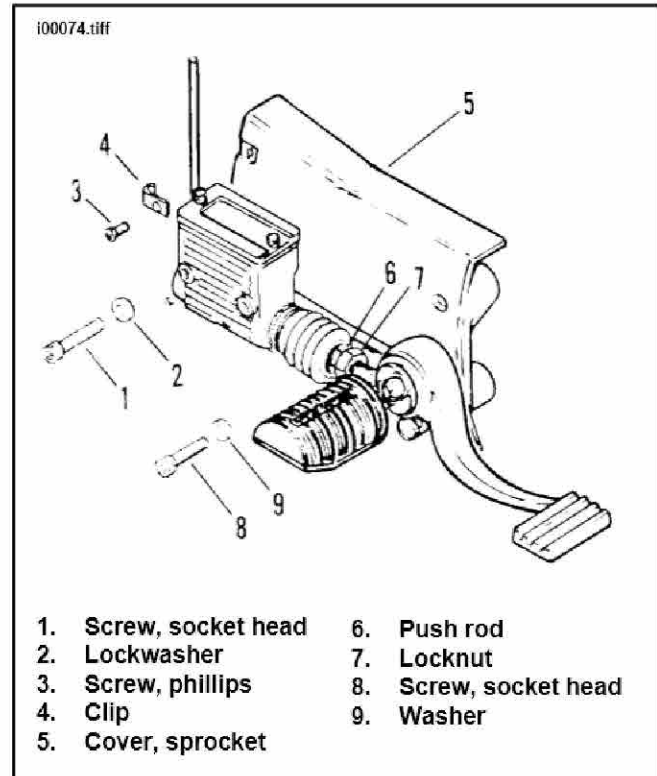
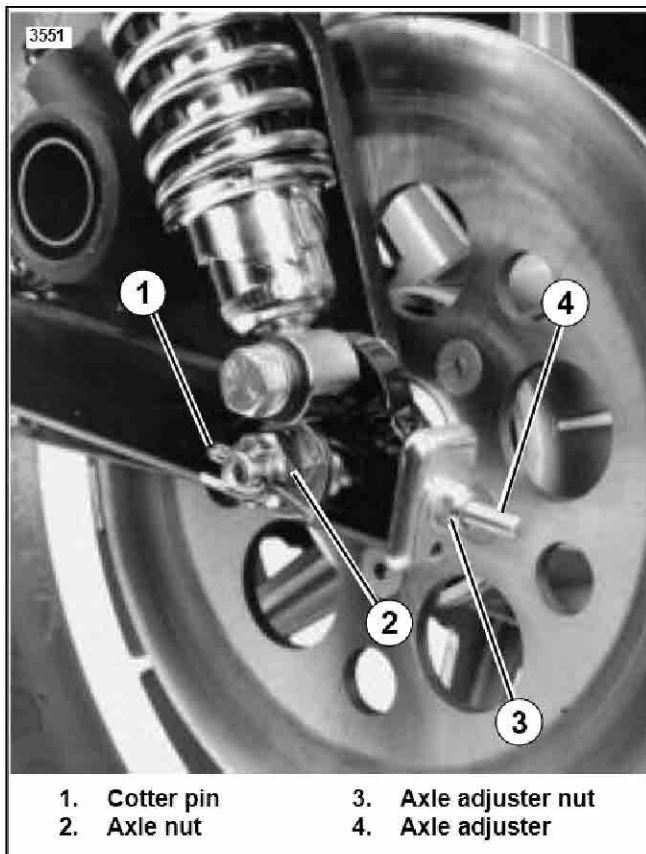
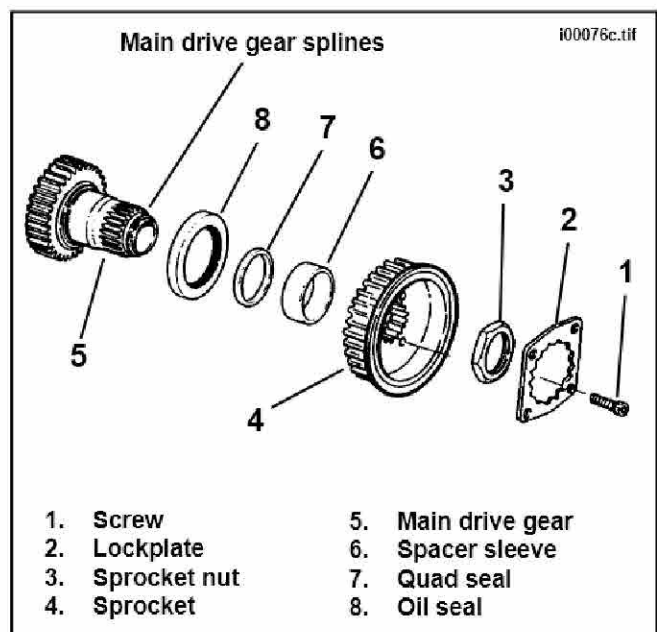
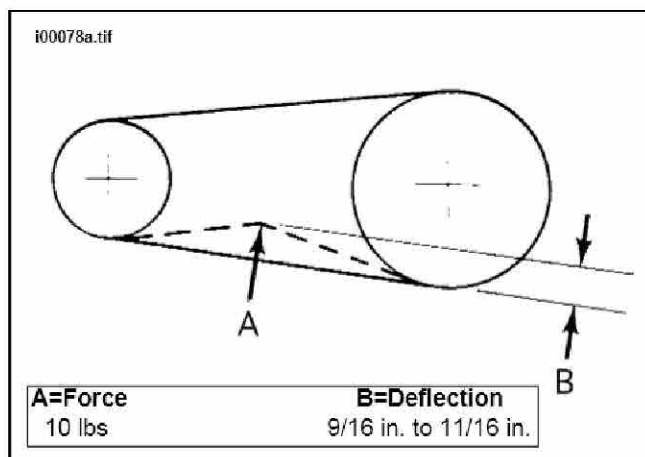

Figure 1. Remove Sprocket cover
Figure 2. Axle Nut Assembly
Figure 4. 1992 and Later Transmission Sprocket Nut
Figure 6. Belt Deflection
- See Figure 1. Remove the two socket head screws (1) and washers (2) attaching master cylinder to sprocket cover (5).
- At rear brake linkage, loosen locknut (7) and turn push rod (6) at flats until rod end is free of push rod.
- Remove phillips screw (3) and clip (4) attaching brake line to sprocket cover.
- Remove the three socket head screws (8) and washers (9) attaching sprocket cover (5) to case. Remove sprocket cover (5) with footrest and brake pedal.
- See Figure 2. Remove cotter pin (1), axle nut (2), and washers from rear axle. Discard cotter pin.
14. See Figure 4. Remove spacer sleeve (6) from main drive gear, using the appropriate Service Manual procedure.
15. Remove and discard quad seal (7) and oil seal (8) from transmission housing, using the appropriate Service Manual procedure.
1. See Figure 1. Install new oil seal (8) in bore of transmission housing. Concave (hollow) side of seal faces inboard.
2. Install quad seal (7) on main drive gear (5).
3. Apply a small amount of H-D transmission lubricant to outside diameter surface of new spacer sleeve (6). Install new spacer sleeve (6), with chamfer facing inboard, over main drive gear (5)
4. See Figure 4. Use a wire brush to clean main drive gear splines.
- a. See Figure 4. Apply a few drops of Loctite 271 from kit to main drive gear splines and new transmission belt sprocket (4), keeping Loctite away from seal.
- b. Apply Loctite 271 to threads of new sprocket nut (3).
7. See Figure 4. Thread the nut (3) counterclockwise onto main drive gear, with flanged side facing transmission sprocket (4).
- 7d. See Figure 4. Install lockplate (2) over nut (3) so that two of lockplate's four drilled holes (diagonally opposite) align with sprocket's (4) two tapped holes.
- See Figure 1. Hold cover (5), footrest and brake pedal assembly in place and install three mounting screws (8) with washers (9). Tighten screws (8) to 90-110 in-lbs.
- Attach brake line to sprocket cover with clip (4) and Phillips screw (3).
- Place lockwashers (2) on master cylinder mounting screws (1). Insert screw through master cylinder master cylinder stiffener and thread into tapped holes in sprocket cover (5). Tighten mounting screws (1) to 155-190 in-lbs.
- Adjust brake pedal to horizontal position and tighten locknut (7).
- See Figure 2. Remove cotter pin (1) and loosen axle nut (2).
- Turn each adjusting nut (3) an equal amount. Turn clockwise to tighten, and counterclockwise to loosen, in order to adjust belt tension.
- See Figure 6. Apply force to belt using Belt Tension Gauge; Harley-Davidson Part No. HD 40006-85.
- See Figure 2. Tighten the axle nut (2) to 60 - 65 ft-lbs. Insert new, large cotter pin (1) from kit. Bend cotter pin over nut flats.
- With a scissors jack or blocking, raise rear wheel so that rear fork is aligned with the centers of pivot bolt and transmission sprocket; as illustrated by line "B" in Figure 6. Check alignment. See Service Manual